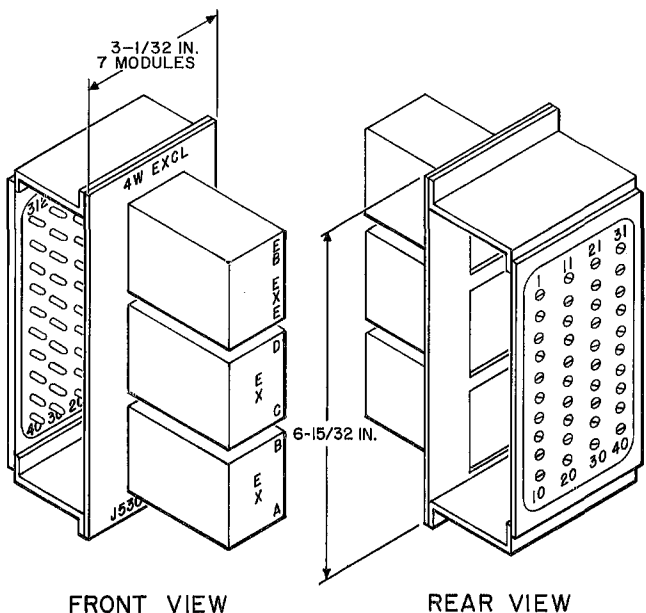

Fig. 5—Exclusion Relay Unit
2.08 The exclusion unit (Fig. 5) provides means for disabling pickup relays of selected station sets at the customer location, preventing undesired station access to lines in use. Several optional levels of exclusion are provided as follows: